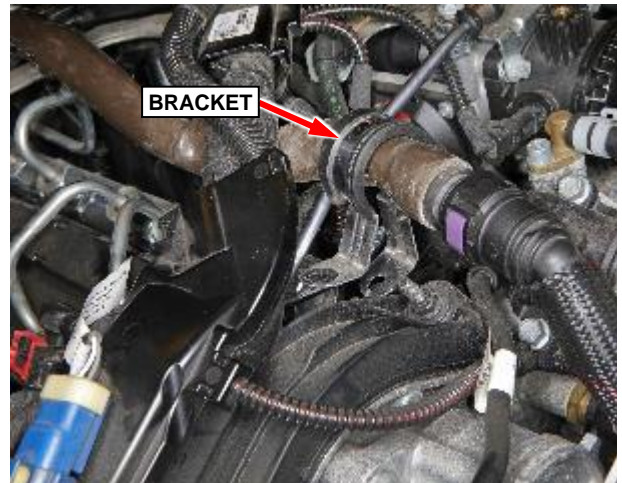

Figure 101 – Front Coolant Hose Bracket
- 18. Remove fasteners from coolant hose support brackets at the front and rear of the engine (Figure 101 and 102).